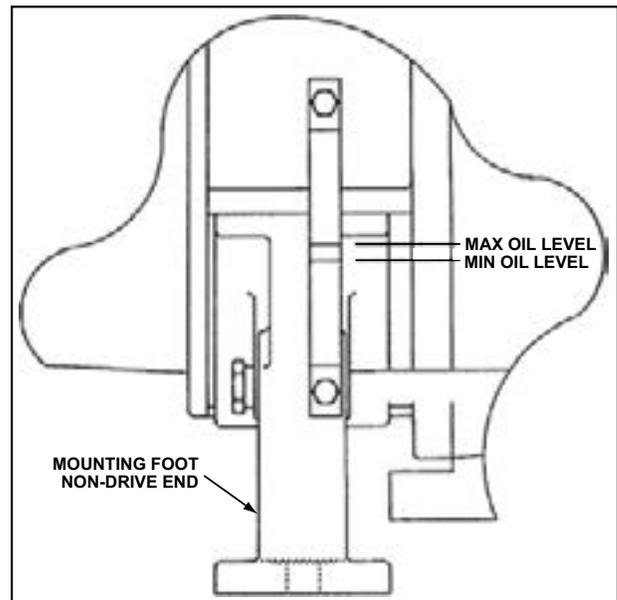

Figure 3. Detailed view of oil level gauge
2. Pour oil through fill hole slowly until oil appears in sight glass. Slowly bring oil up to level between red markers. See Figure 3 at right. Let stand until oil stabilizes, then add as needed.
Oil levels should be checked frequently. Booster must be shut down to properly check oil level. See Figure 3 on the following page for detail.